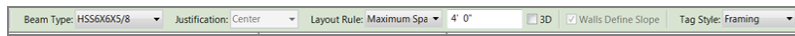

FIGURE 8.41: Setting the maximum spacing and the tag style on the Options bar
5. Change Layout Rule to Maximum Spacing, as shown in Figure 8.41. Set the distance field to 4'-0" (1200mm).